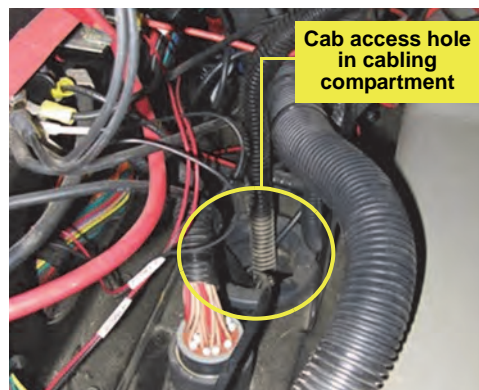

Figure 6a: Cab access hole
a. Route remaining cable A connectors (the in-cab connectors) forward along the frame under the tank and into the cab through the access hole inside the compartment on the right of the driver's seat (Figure 6a).